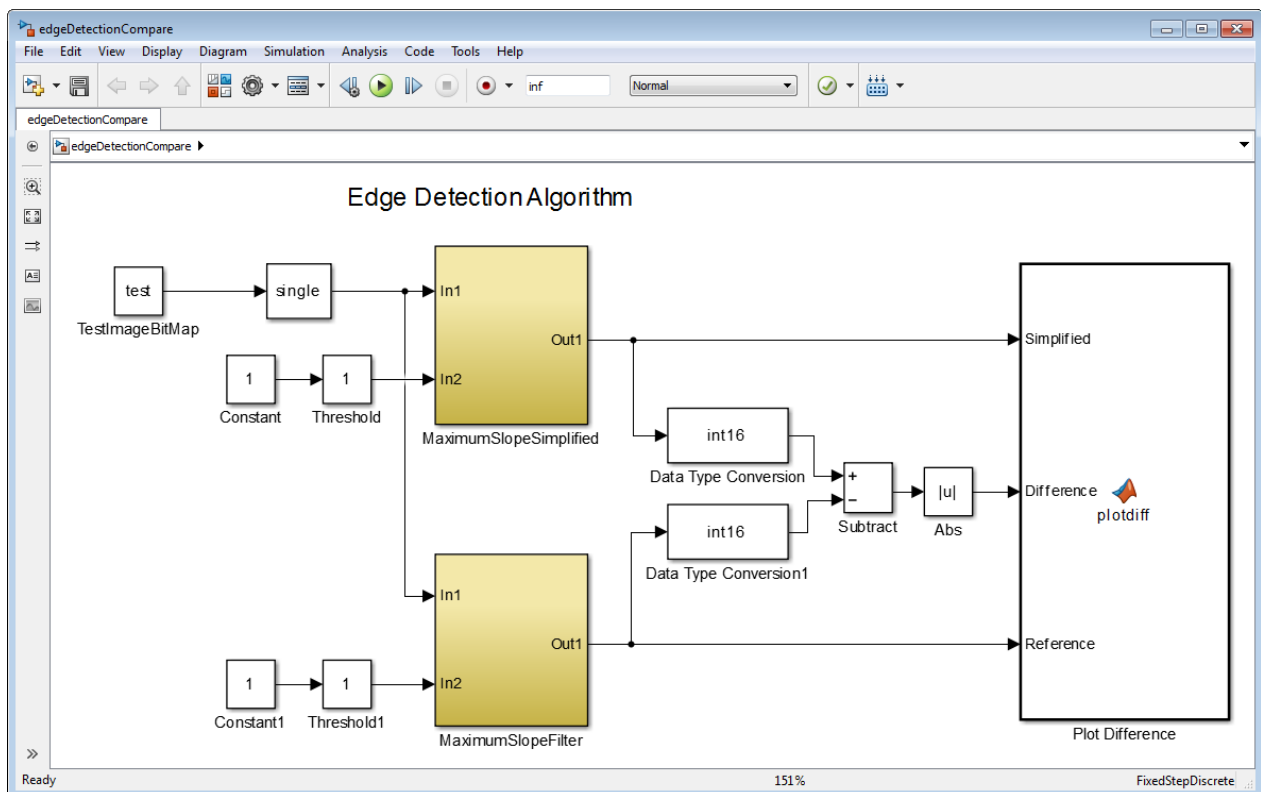

Figure 39: Comparison of two different edge detection algorithm implementations
- Connect the **MaximumSlopeSimplified Subsystem** as in **Figure 39** shown below.